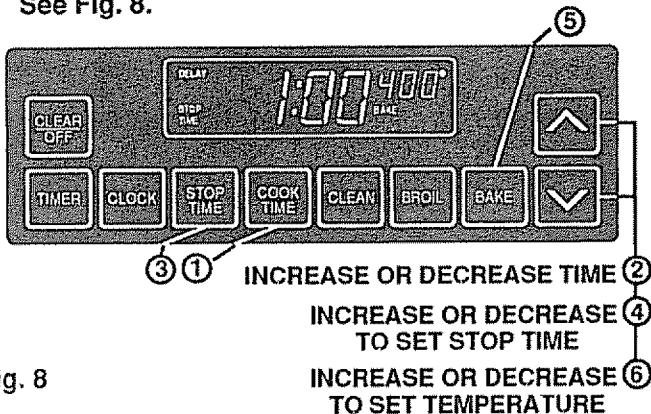

Fig. 8
6. Select temperature by pressing **UP** or **DOWN** arrow. See Fig. 8.